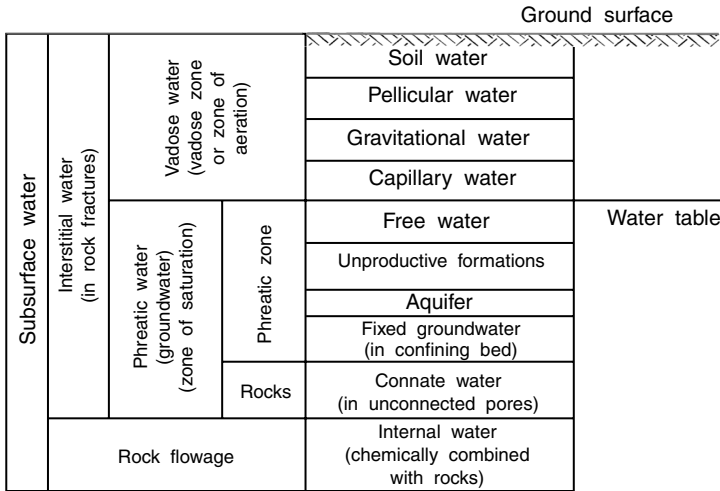

FIGURE S-14 Subsurface water.
**Subsurface stormflow** (1) Same as **interflow**. (2) A common theory of runoff generation: in a densely vegetated area, the ground absorbs most of the rainfall, which moves through the aeration zone to surface streams. *See also* Horton overland flow concept; saturation overland flow concept.
**Subsurface water** All water below the earth's surface. *See* Figure S-14. According to Meinzer's and other classifications, it includes two main components: interstitial and internal. Related terms listed and defined alphabetically in this dictionary include aquifer, capillary water, connate water, fixed groundwater, free water, gravitational water, internal water interstitial water, pellicular water, phreatic water, soil water, unproductive formations, vadose water. Other subsurface water terms are aeration zone, confining bed, intermediate groundwater, intermediate vadose water, saturation zone, unsaturated zone, water of adhesion.
**Suspended water** The portion of subsurface water found in the vadose zone (or aeration zone) between the ground surface and the water table. Also called **vadose water**, it includes soil, pellicular, gravitational, and capillary water. *See* Figure S-14; subsurface water.